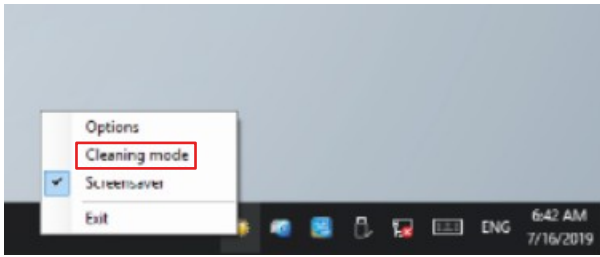

Fig. 14: CP69xx\_Select Cleaning Mode
3. Select the "Cleaning Mode" (see Fig. 14).
| Fig. 14 | CP69xx_Select Cleaning Mode .....                        | 28 |